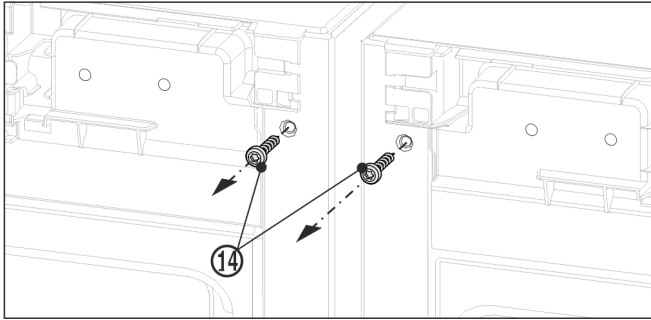

Fig. 11
- Before fitting the top bracket, unscrew both grounding screws Fig. 11 (14).